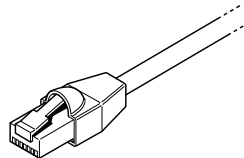

Figure 4 Xanbus Cable
- Xanbus cables—each Xanbus-enabled device is connected by a standard straight-through Ethernet cable—CAT 5e. See Figure 4 on page 8. If more cables or a different length are required, these standard cables can be purchased from Xantrex Technology USA Inc. or any computer supply store.